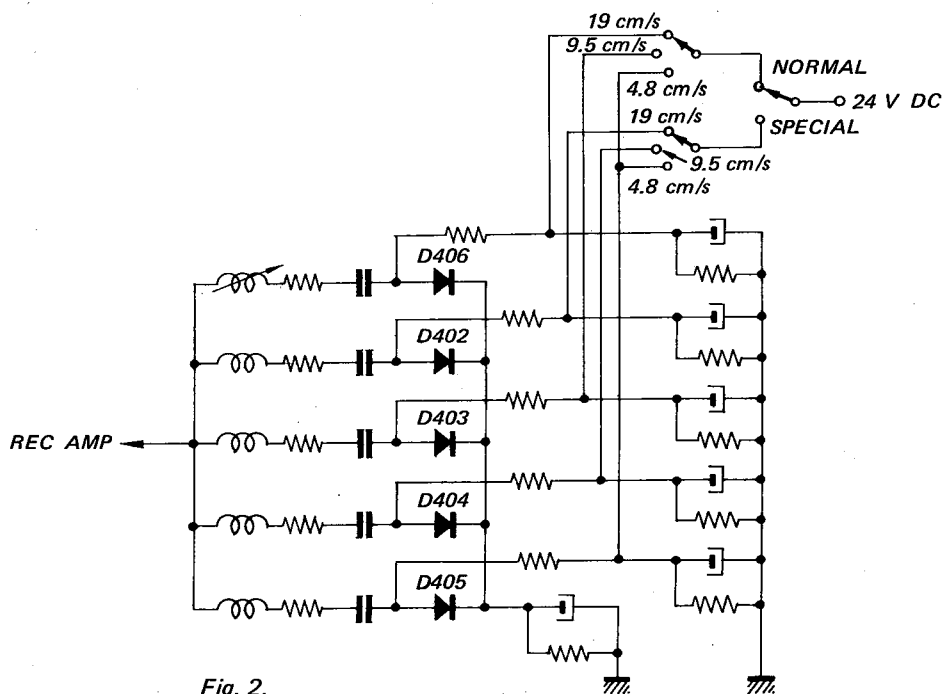

Fig. 2.
1. Record equalizer selecting circuit is indicated in Fig. 2. With the TAPE SPEED $7\frac{1}{2}$ ips (19 cm/s) and the TAPE SELECT switch NORMAL, normal bias voltage is applied on D406, and D402, D403, D404 and D405 are in the cut-off state by reverse bias. Therefore the record equalizer selecting can be accomplished by changing normal bias voltage.